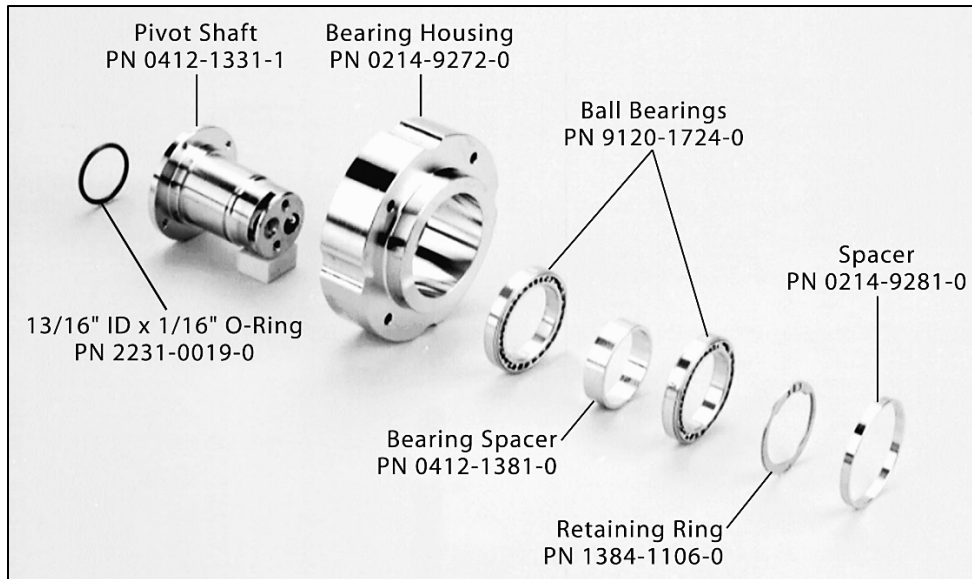

Figure 5-17. Parts of Bearing Housing Assembly, in Order of Reassembly
Step 3: Remove the pivot shaft, upper and lower bearings, and bearing spacer from the bearing housing. Figure 5-17 shows these parts laid out in order of reassembly.